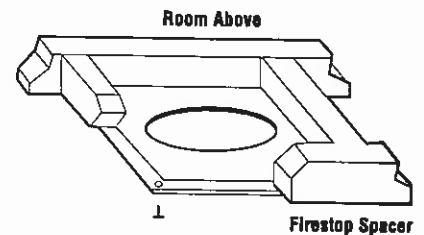
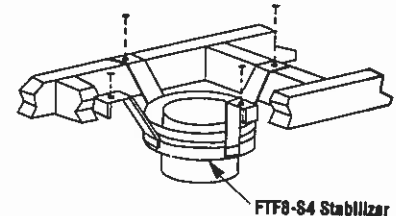

Figure 21
Figure 27
Note: If there is a room above ceiling level, firestop spacer must be installed on the bottom side of the ceiling. If an attic is above ceiling level, firestop spacer must be installed on top side of ceiling joist (Figures 21 and 22).
Install the Model FTF10-S4 stabilizer by fitting inner section down into respective section of proceeding flue pipe and locking outer stabilizer section into place over the outer chimney pipe. Position for proper clearance through framed opening and nail straps securely (under tension in "shear") into place on framing. Use 8d nails. Attach successive lengths of chimney pipe directly to stabilizer using same techniques as described in Step 4 (Figure 27).
Step 1. Use Offset Chart to determine amount of horizontal offset (A) and height (B) for various chimney section assemblies.
Step 3. Use Elevation Chart as job estimator only. Add necessary firestop spacers and stabilizers as required. Firestop spacers must be used as shown in Figures 21 and 22 and stabilizers as shown in Figure 27.